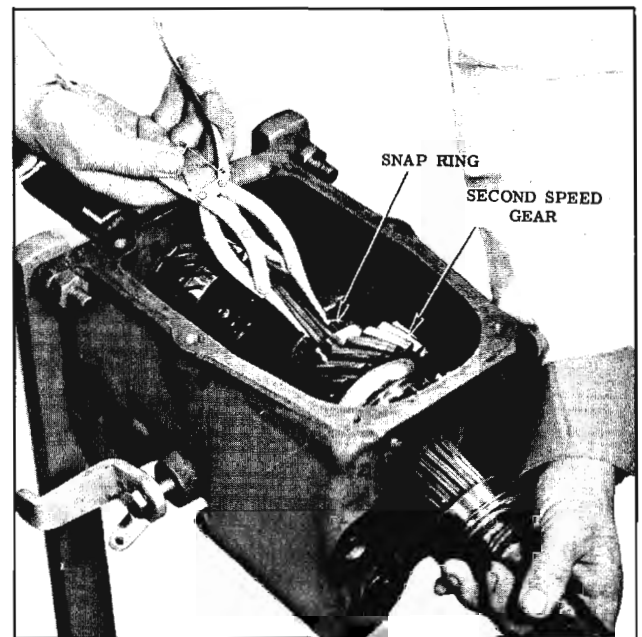

Fig. 11-10 Removing Second Speed Gear Snap Ring
7. Remove the snap ring holding the second speed gear on the main shaft. (Fig. 11-10)